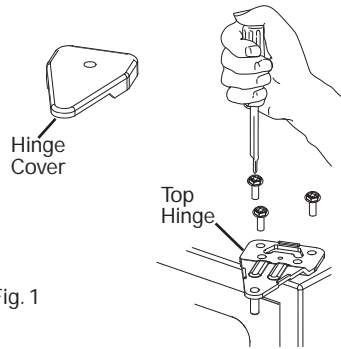

Fig. 1
1. Remove hinge cover screw. (Fig 1.)
Dismantling: (See Figs. 1 & 2)
2. As shown in Fig. 1, dismantle the hinge cover on the upper part of freezer door with a Phillips head screwdriver. Then remove the three screws that hold the hinge. Take out the hinge by pulling it vertically, and keep it in a safe place.